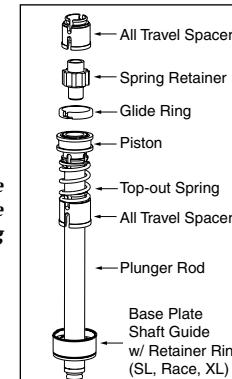

Fig. 8
12. Remove All Travel spacers, and plunger/damper assemblies from upper tubes, noting orientation of all parts. (See Fig. 8 and 9)